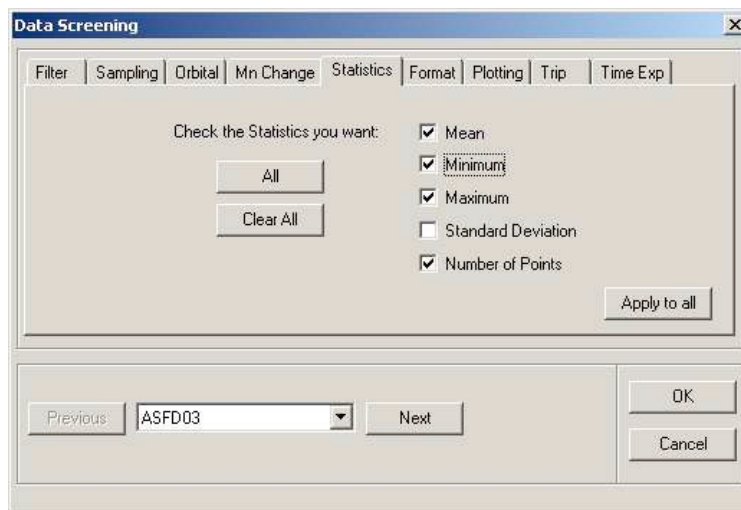

Figure 74: Statistics Criteria Screen
- Select the “Statistics” tab from the Data Screening window (see Figure 74).